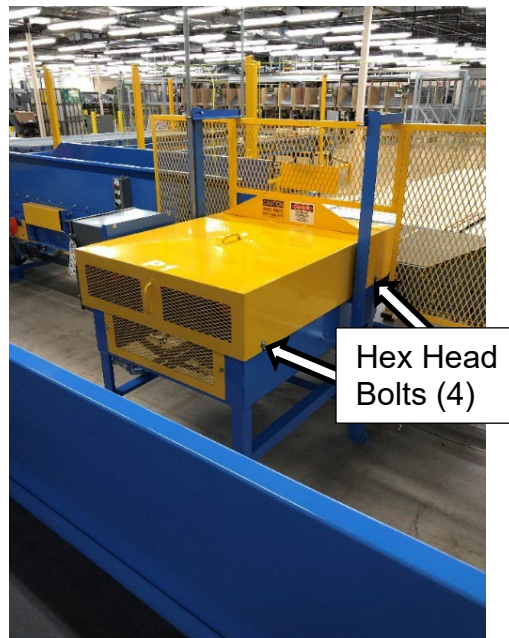

Figure 3. Yellow Safety Cover
2. Loosen four 9/16-inch hex head bolts on the yellow cover and lift the cover from pusher (Figure 3).